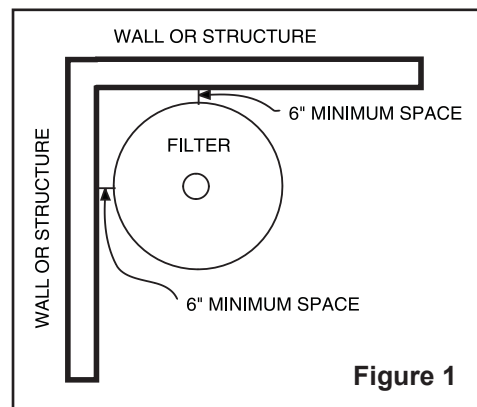

Figure 1
3. Install electrical controls (e.g., on/off switches, timers, control systems, etc.) at least five (5) feet from the filter. This will allow you enough room to stand clear of the filter during system start up.
4. Allow sufficient clearance around the filter to permit visual verification that the clamp is properly installed around the tank flanges, see **Figure 1**.